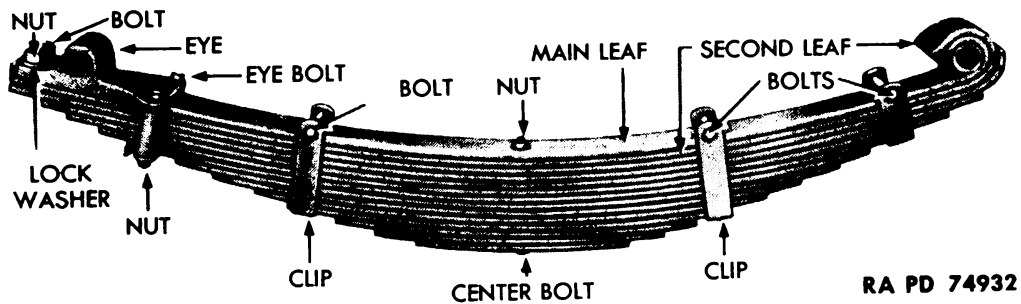

Figure 55 - Front Spring Assembly
a. **Description** (fig. 55). The two front springs are semielliptic and consist of 14 leaves. Each spring is secured at the front end by a pin to a frame bracket, and at the rear end by a pin to a shackle.
a. **Disassembly** (fig. 55).
c. Assembly (fig. 55).